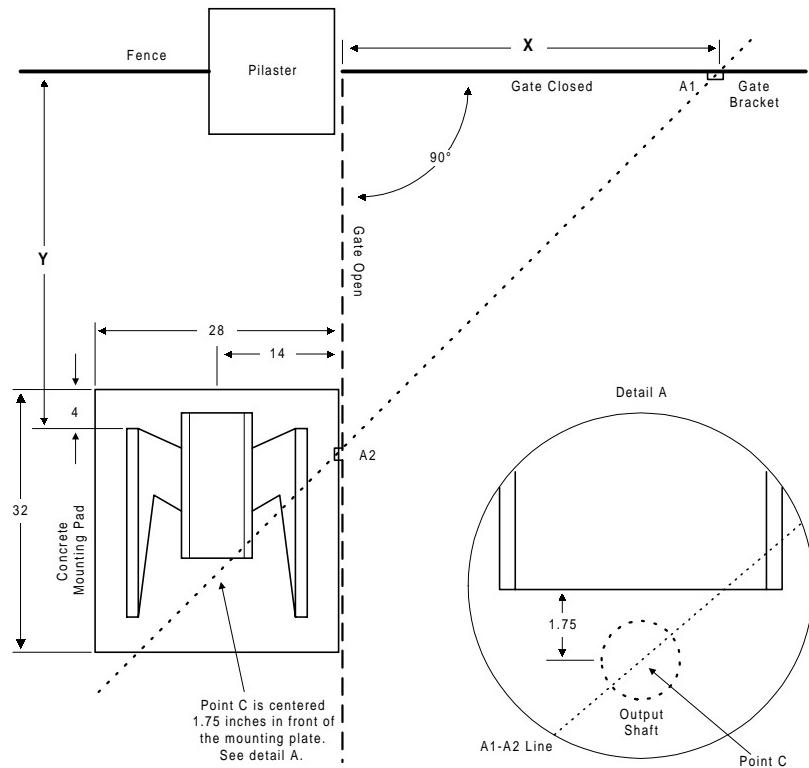

Figure 5
1. Using Table 2 and Figure 5 determine the location of the concrete pad and mounting plate. The location of the pad and base plate and the **Y** measurement is dependent on the **X** measurement that you choose.
6. Anchor the concrete mounting plate to the pad using eight (8) 3/8 x 3 sleeve anchors (not supplied). It is important that the concrete base plate is located correctly on the pad so that the A1-A2 line will intersect the operator output shaft as shown in Figure 5.